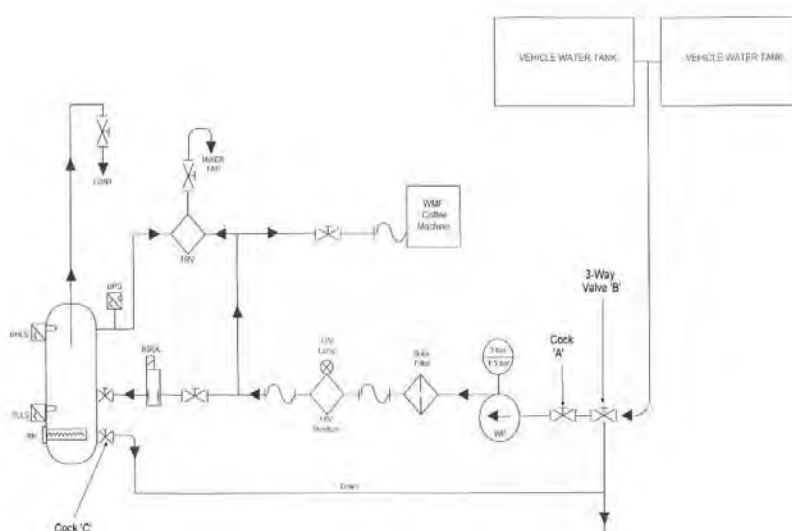

Figure 3.1: Location of Drain Cocks on TSOB
2. Referencing Figure 3.1, operate the cocks/valves as follows:
- 2.1 Close the cock located in pipework upstream from the water pump (identified as 'A' on Figure 3.1).
- 2.2 Open the three way valve (identified as 'B' on Figure 3.1) to drain the water tanks.
- 2.3 Open the drain cock at the bottom of the hot water boiler (identified as 'C' on Figure 3.1).